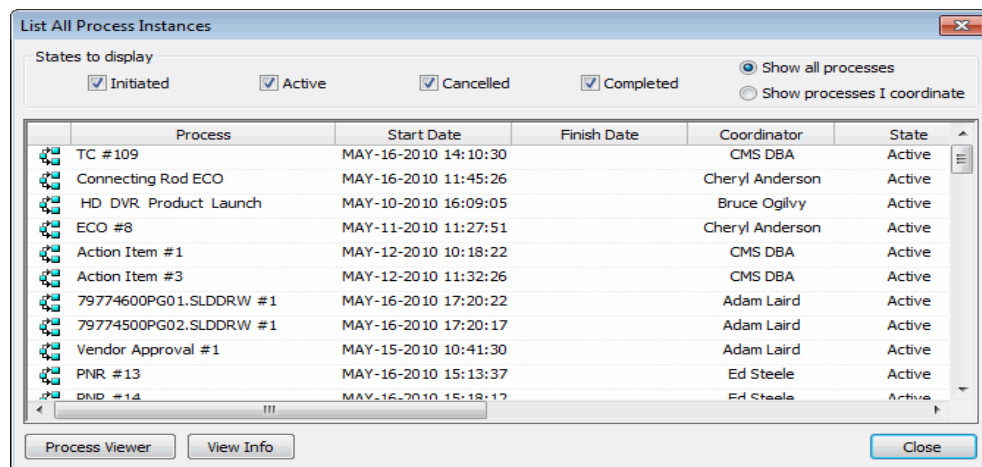

Figure 4-31: List of all processes
1. On the **Workflow** menu, select **List processes**. You may also use the toolbar icon. The List all process instances window appears (refer to Figure 4-31).